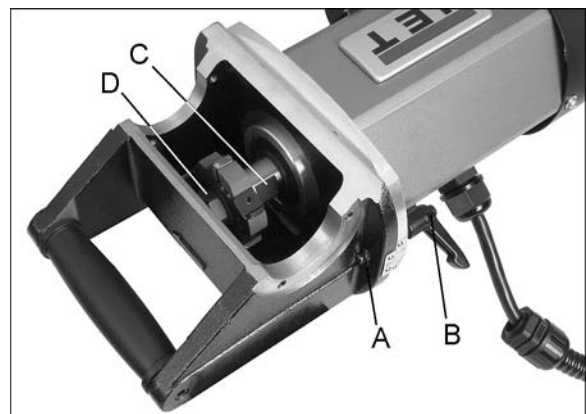

Figure 9-2
3. Remove E-retaining rings (A, Figure 9-2) with pliers and unscrew both locking handles (B) with 2.5mm hex wrench.
5. Hold spindle stationary with 21mm wrench on the flats (C), while removing hex nut (D) with 23mm or adjustable wrench.